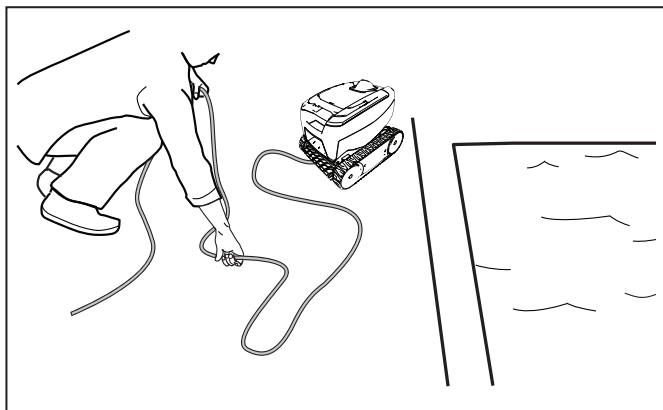

Figure 18. Lay Cable in the Sun
4. Remove the cleaner from the pool and untangle all kinks and coils in the floating cable (Figure 18). Start at the cleaner head. Lay the cable in the sun to loosen any tangling memory.